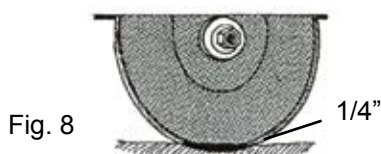

Fig. 8
- Fill the coolant tank with lapidary cutting oil until coolant covers approximately 1/4" of the blade rim (Fig. 8).